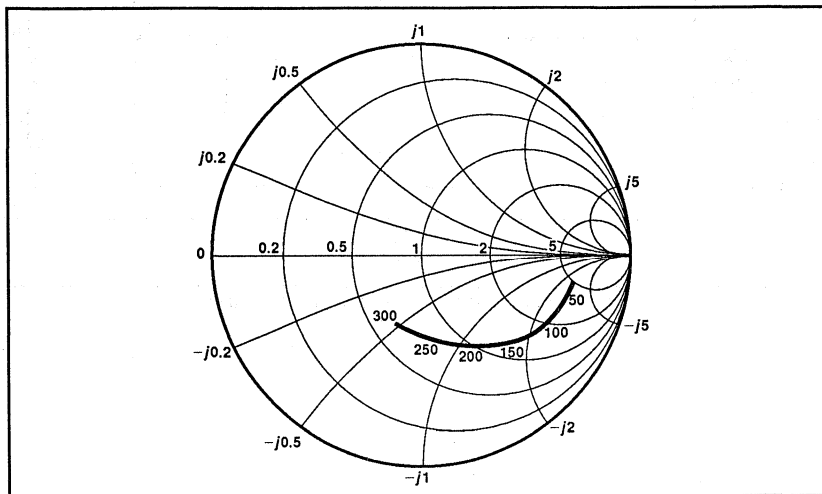

Fig. 5 Typical input impedance. Test conditions: Supply Voltage = -5.2V, Ambient Temperature = 25°C. Frequencies in MHz, impedances normalised to 50Ω.
6. The input impedance of the SP8720 varies as a function of frequency, see Fig. 5.